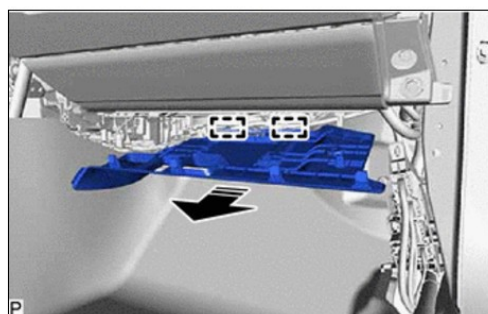

Figure 17
- (b) Disengage the 2 guide as shown in Figure 17.